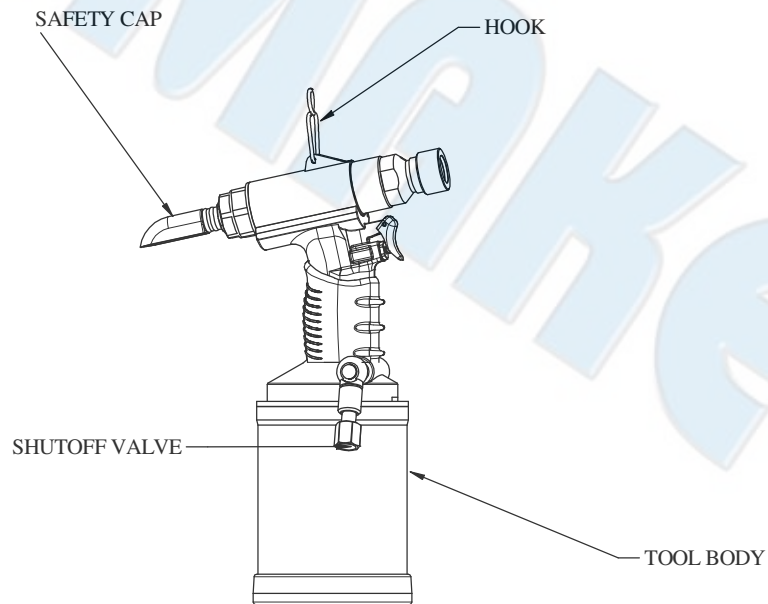

Fig. 1 ST-6410(H) Installation Tool
The ST-6410(H) Installation Tool illustrated in Fig. 1 with its pneumatic hydraulic system provides an efficient, lightweight, powerful, and quiet tool for rivet nut installation. It is designed to provide long life and trouble free services.